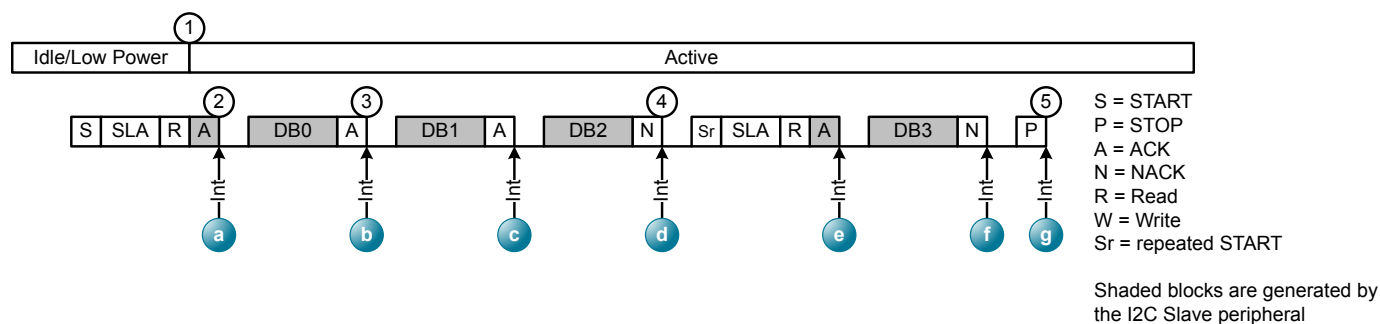
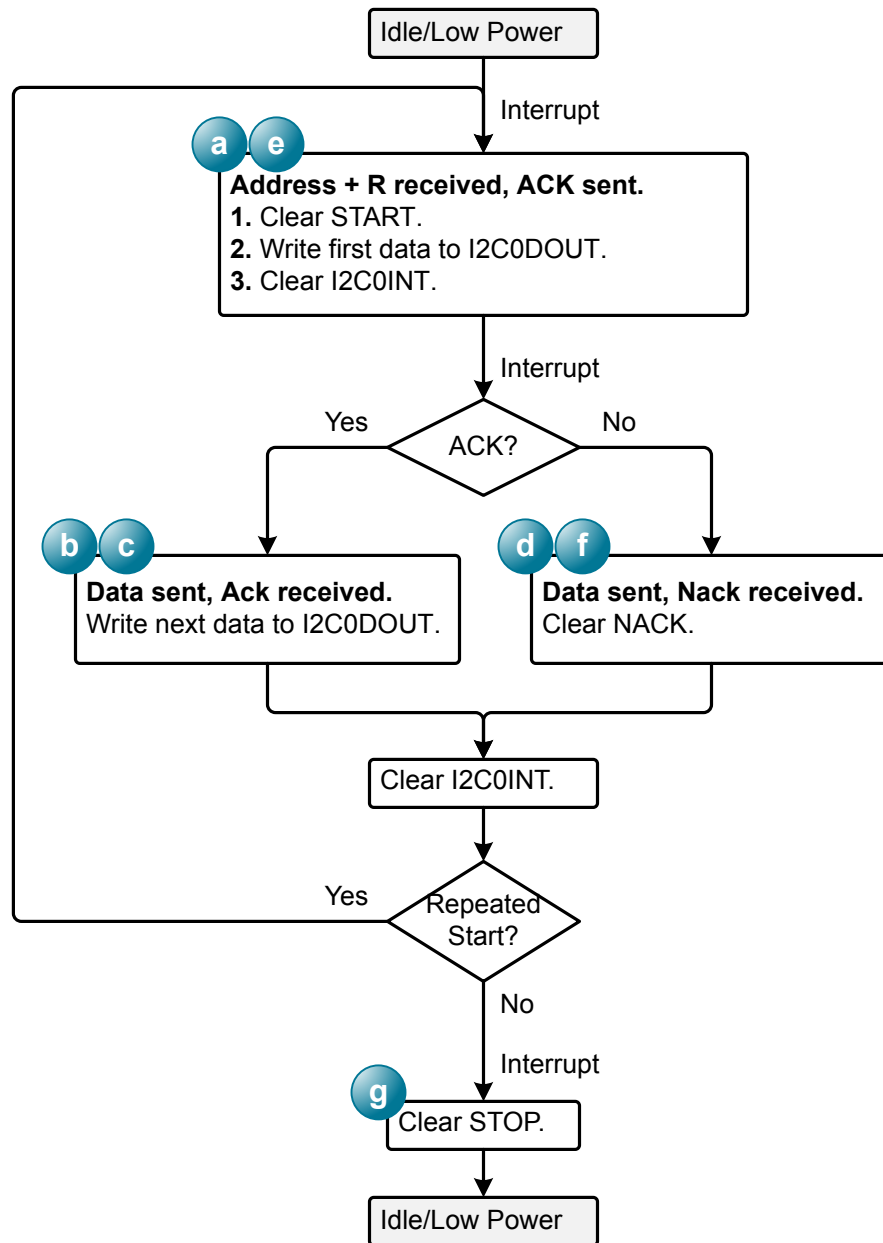

Figure 17.7. Example I2C Read Sequence with the I2C Slave Peripheral
Figure 17.8. I2C Read Flow Diagram with the I2C Slave Peripheral
2. An interrupt occurs after the automatic ACK of the address. The I2C peripheral holds the SCL line low for clock stretching until firmware clears I2C0INT. Firmware should read the data from the master and take the actions indicated by Figure 17.8 I2C Read Flow Diagram with the I2C Slave Peripheral on page 244.
Figure 17.7 Example I2C Read Sequence with the I2C Slave Peripheral on page 243 demonstrates an example sequence, including a repeated start, and Figure 17.8 I2C Read Flow Diagram with the I2C Slave Peripheral on page 244 describes the I2C Read sequence and firmware actions in each interrupt.